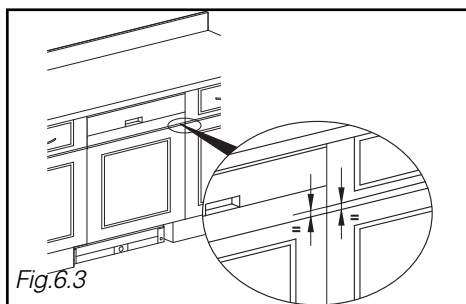

Fig. 6.3
- Measure the distance between the drawer and the door panel on the adjacent unit (Fig. 6.3).